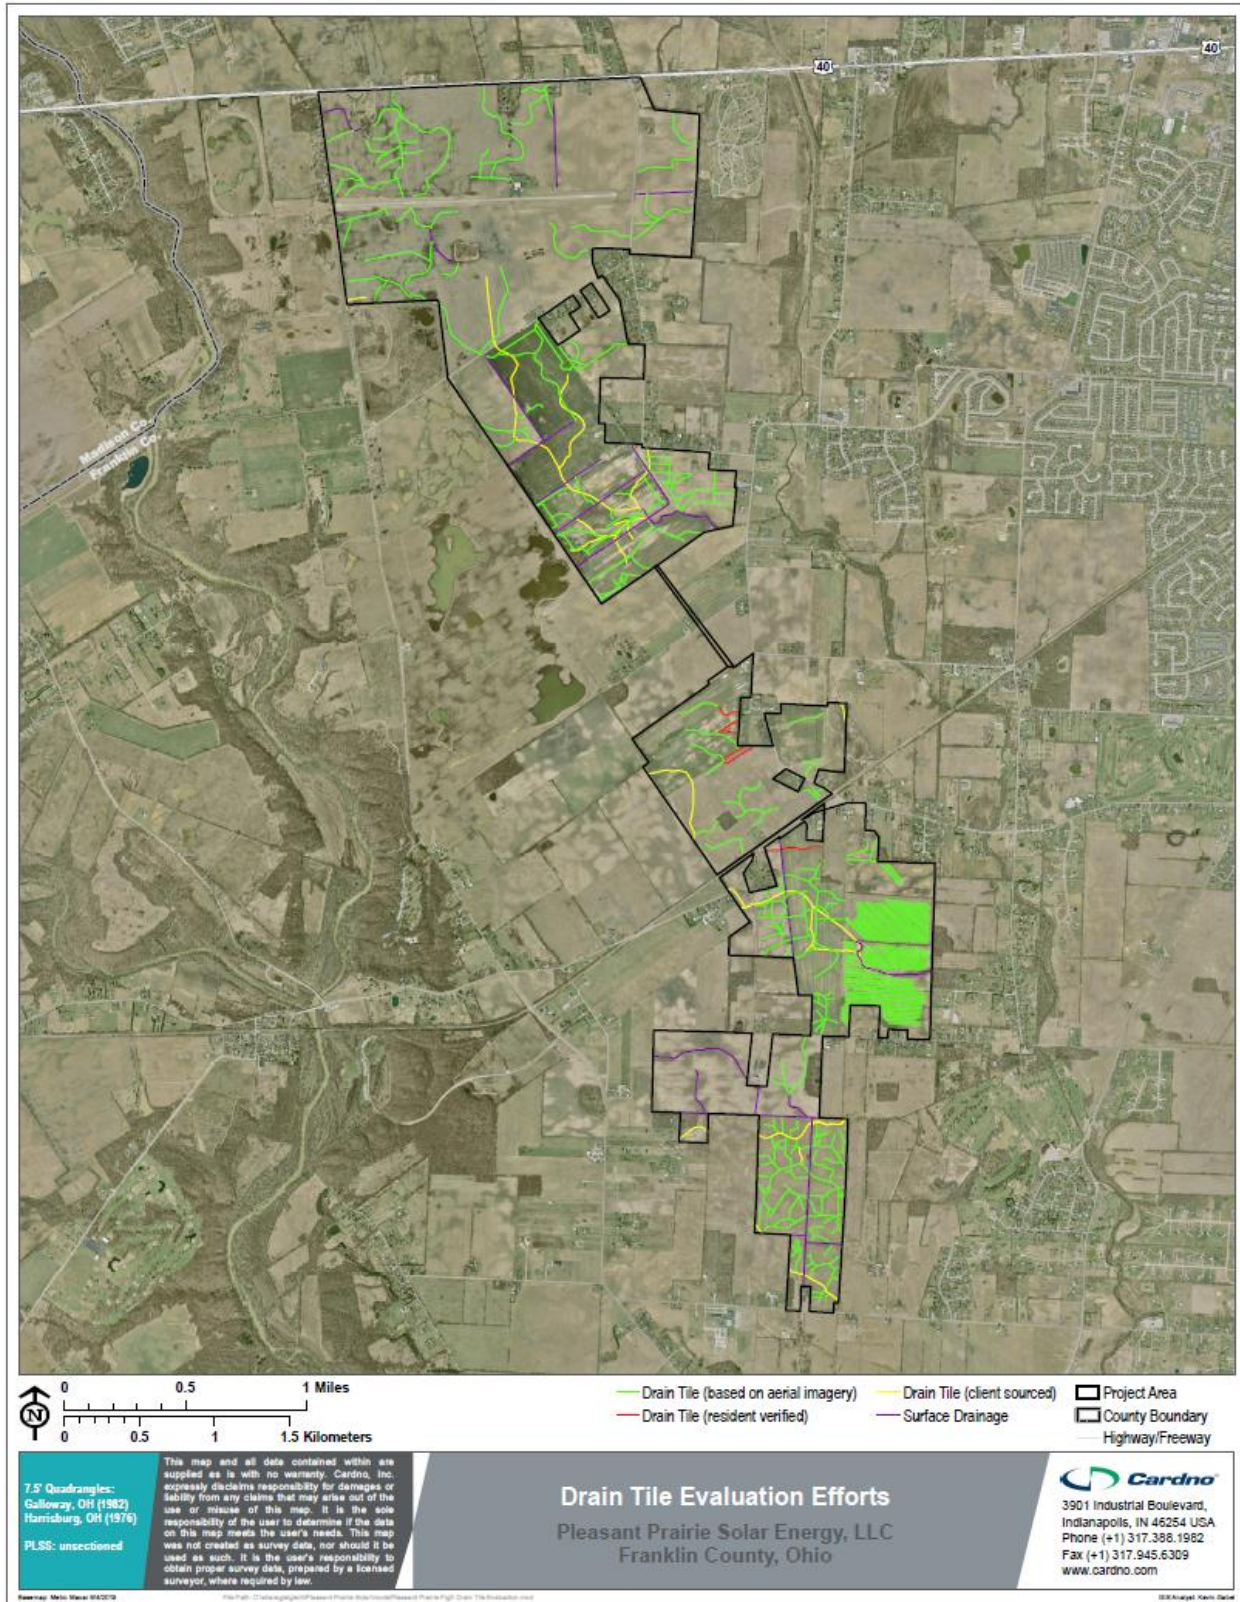

Figure 3. Drain Tile Evaluation
- Figure 3. Drain Tile Evaluation 2-2
The drainage tiles appear to be limited to natural drainages or non-existent on the majority of the parcels within the Project with the exception of the eastern parcels south of Alkire Rd and north of Johnson Road as well as the southern portion parcel just north of Kropp Rd (Figure 3: Drain Tile Evaluation). When a lateral tile is discovered during excavation work, other tiles should be assumed present and contractors shall be vigilant in identifying lines that have been intercepted by construction work.